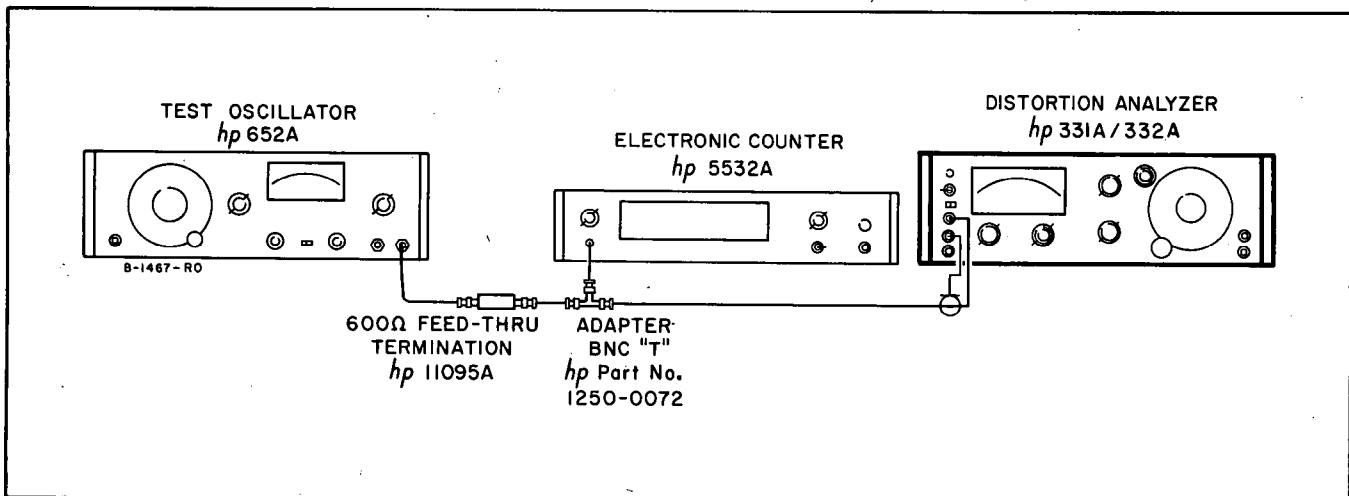

Figure 5-3. Frequency Calibration Accuracy Check
- a. Connect test equipment to 331A/332A as shown in Figure 5-3. Set electronic counter to read period.